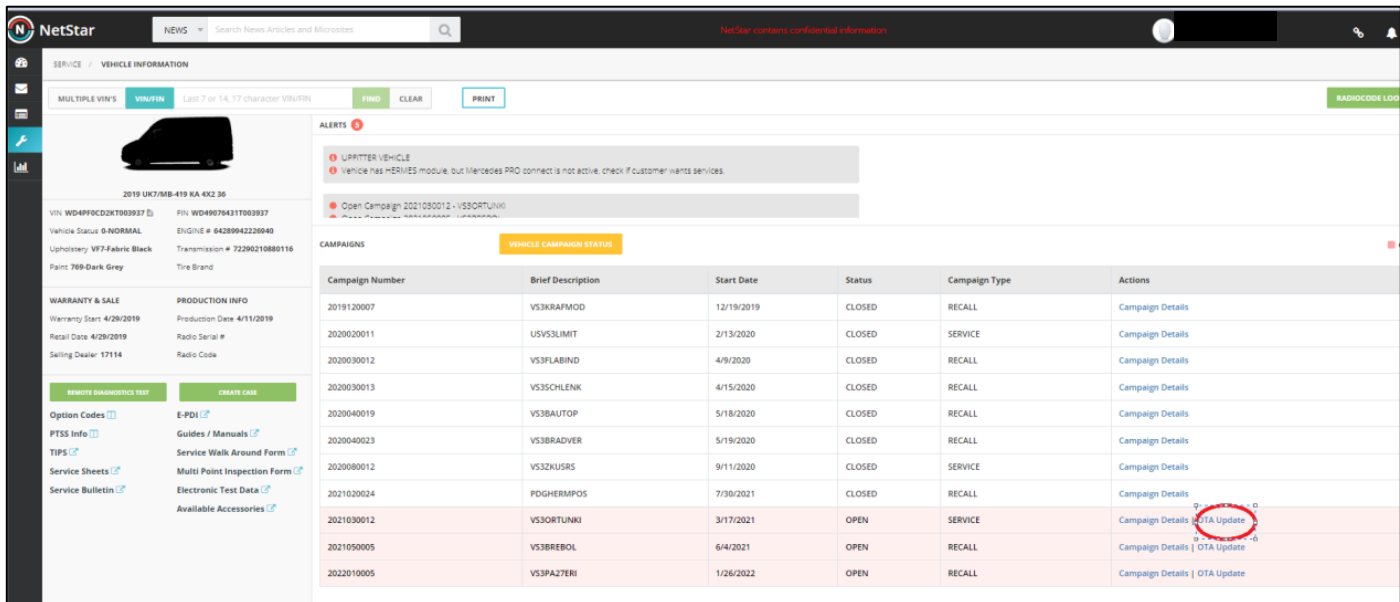

Figure 5 – In the "Actions" column, "OTA Update" is available, listed next to Campaign Number 2023110006
2. Search for the vehicle identification number (VIN) (**Figure 5**).